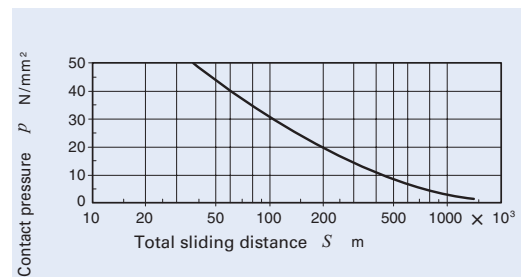

Fig. 6 Contact pressure and total sliding distance for maintenance-free type PILLOBALL Rod Ends
The life of maintenance-free type PILLOBALL Rod Ends is obtained from the total sliding distance  $S$  which is given in Fig.6 for the contact pressure  $p$  obtained from equation (3).